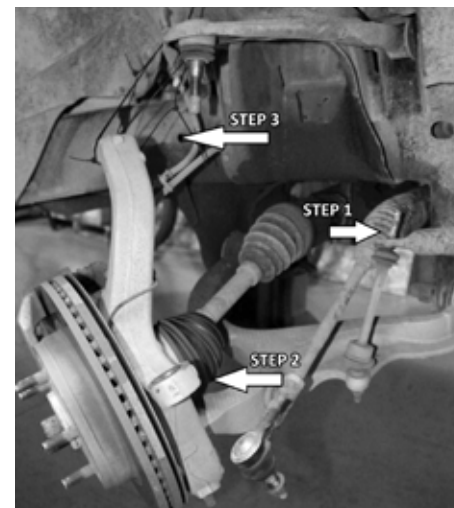

Fig. 1 - Passenger Side
4. Disconnect sway bar at the lower control arm on both sides. (Fig. 1 - Step 1)
5. Disconnect both outer tie rod ends from spindle steering arm. (Fig.1 - step 2)
6. Disconnect both upper control arms from spindle steering arm. Be careful not to damage any electric wires or brake lines. (Fig.1 - Step 3)
7. Remove the (3) top nuts that secure the stock shock assembly to the vehicle. **DO NOT** remove center nut;